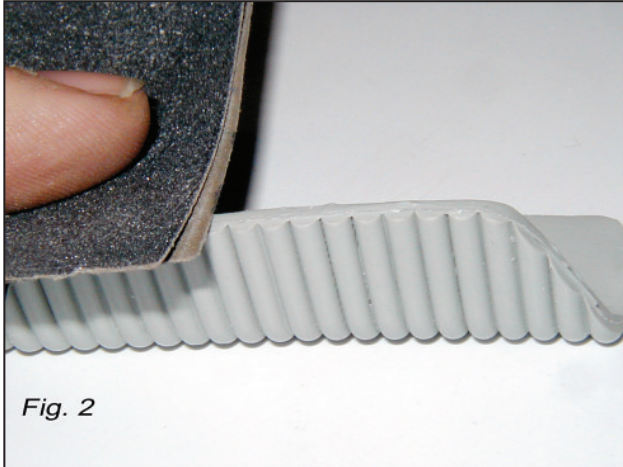

Fig. 2
**Step 1:** Sand all mold separation lines and sprues smooth, test fit your parts as you work. Clear the holes in the bottom plate as well as the LED display hole with your knife. Fill in any objectionable holes/bubbles and seam lines with the spot putty according to the putty manufacturer's instructions, then sand smooth [Figs. 2 through 5].